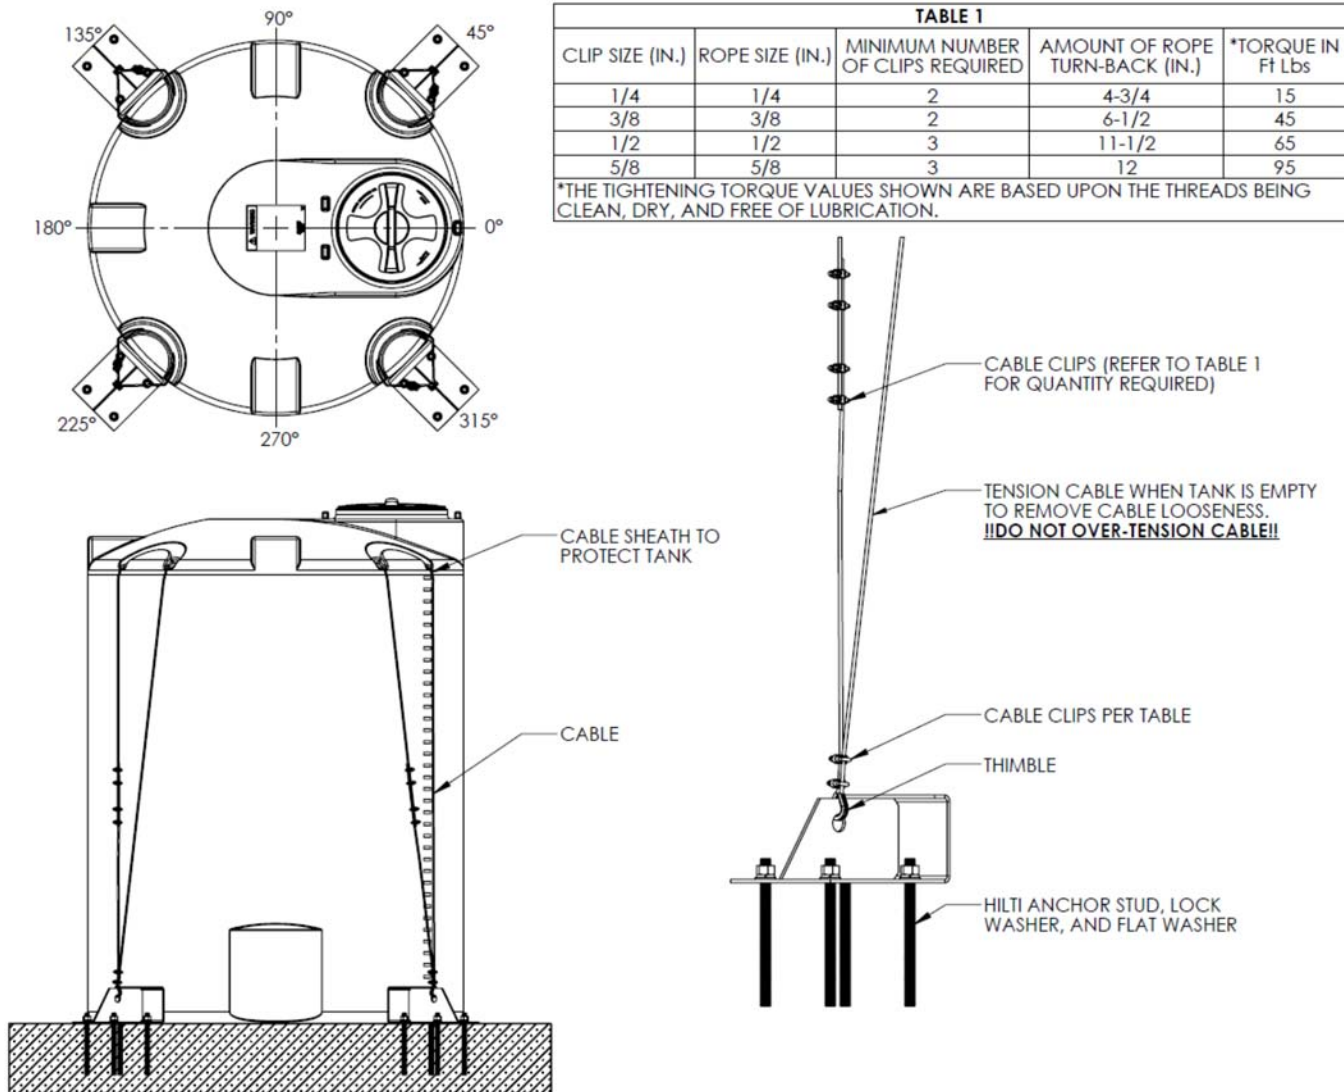

Figure 8.2
8.2.1 The wind/seismic tank restraint system is designed for tank restraint on an appropriate concrete pad under 150 MPH wind or IBC/CBC seismic requirements. Site specific calculations are available from Snyder Industries as a purchased option. Using the assembly drawing and table sent with the assembly, verify that all parts are present. Please see Figure 8.2 for a restraint system installation and assembly information.